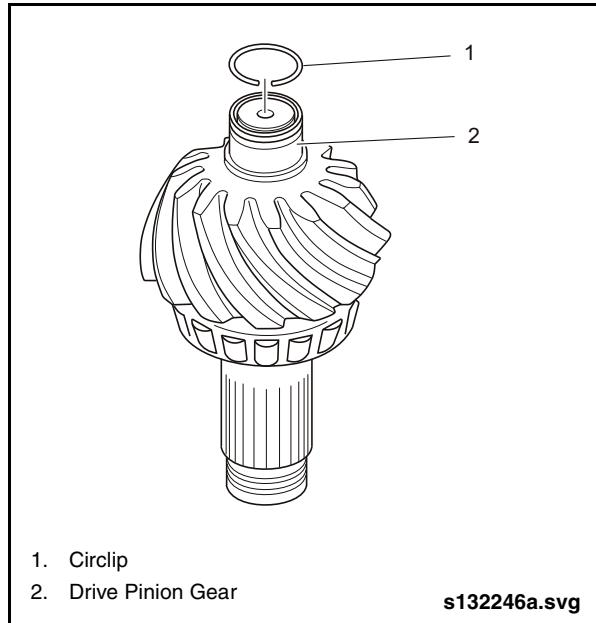

Fig. 2-98: Installing Bearing Inner Race Circlip
4. Install the bearing inner race until fully seated with the collar facing the drive pinion gear. See "Fig. 2-98: Installing Bearing Inner Race Circlip" on page 79.